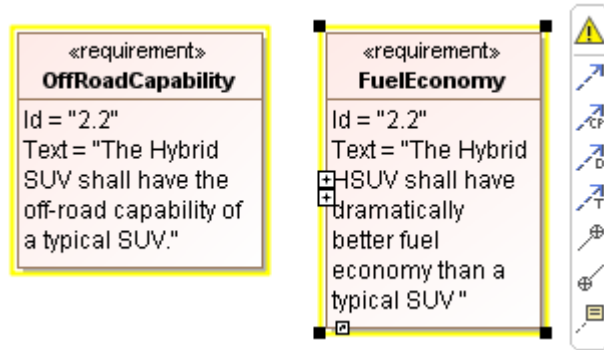

Figure 206 -- Invalid Elements Highlighted after Validation
7. The **Validation Results** window will show the elements that do not conform to some constraints in the selected validation suite. These elements are called "invalid" elements and are highlighted. If a highlighted invalid element is selected, for example, the Loss of Fluid requirement element, a warning will appear (Figure 206).